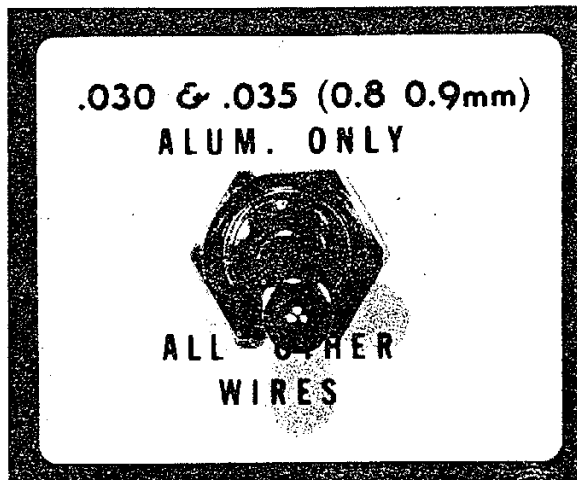

Figure 3
2. Set wire Size Selector Switch **Fig. 3** to proper position for wire in use.
6. Set wire selector switch **Fig. 3** in the ".030 & .035 ALUM. ONLY" position.
8. As you perform item 9, have an assistant depress the torch trigger while you hold the spring scale and restrain wire from moving through drive rolls.
10. Release torch trigger and reset the wire selector switch to "ALL OTHER WIRES" position. **Fig. 3.**